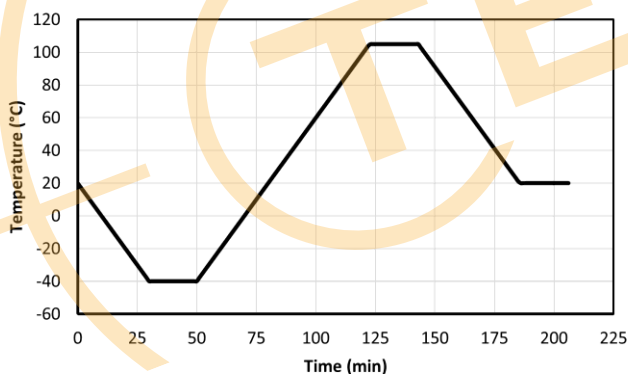

Figure 19: Recommended Temperature profile for calibration
1. Place the sensor on a rate table in a thermal chamber and implement temperature profile according to Figure 19¹